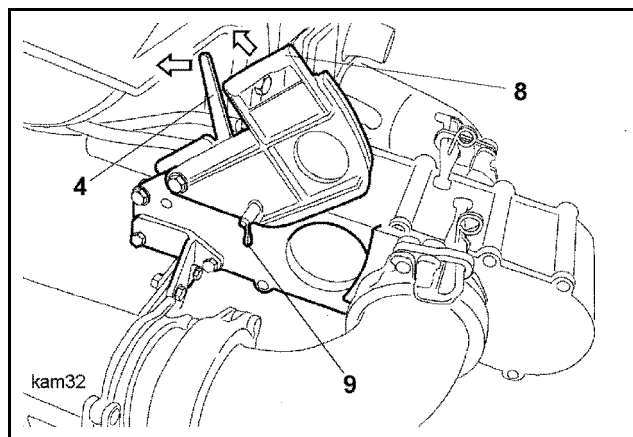

Fig. 461
- Shut the ball valve by pulling the lever (4) (**Fig. 461**) up 90° so that the hydraulic cylinders cannot be actuated and the ball flap can be opened.
- Open the flap of the chamber valve using the handle (8) and lock it in place with the toggle (9) (**Fig. 461**).
The flap can only be opened if the lever (4) (**Fig. 461**) is turned (ball valve closed).